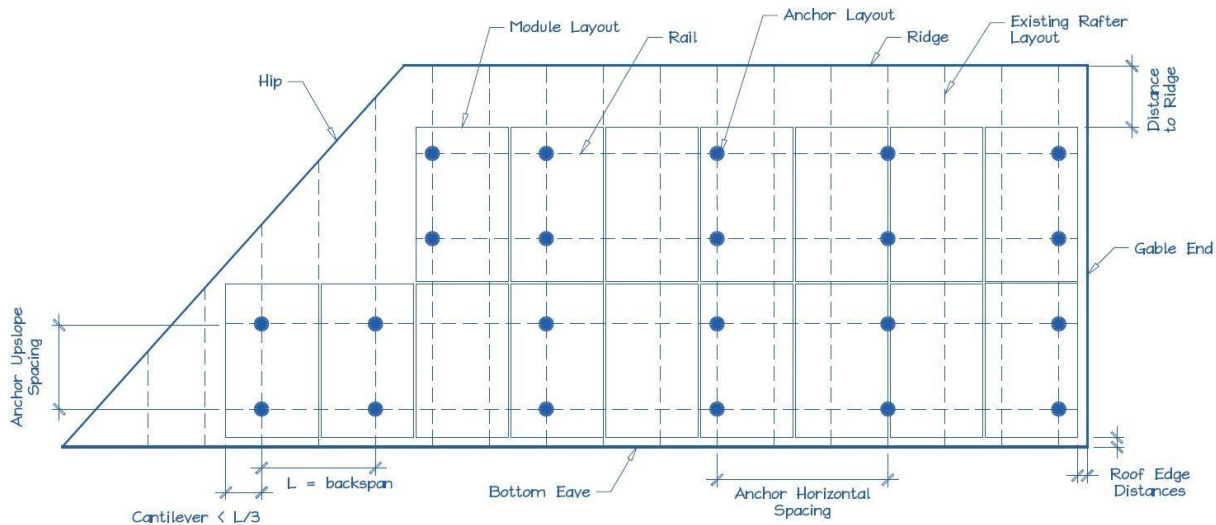

Figure 2. Sample Solar Panel Array and Anchor Layout Diagram (Roof Plan).
E. Is a roof plan of the module and anchor layout attached? (see Figure 2)
- 1). Proposed anchor horizontal spacing (see Figure 2):
1. Anchors are also known as "stand-offs," "mounts" or "points of attachment." Horizontal anchor spacing is also known as "cross-slope" or "east-west" anchor spacing (see Figure 2).